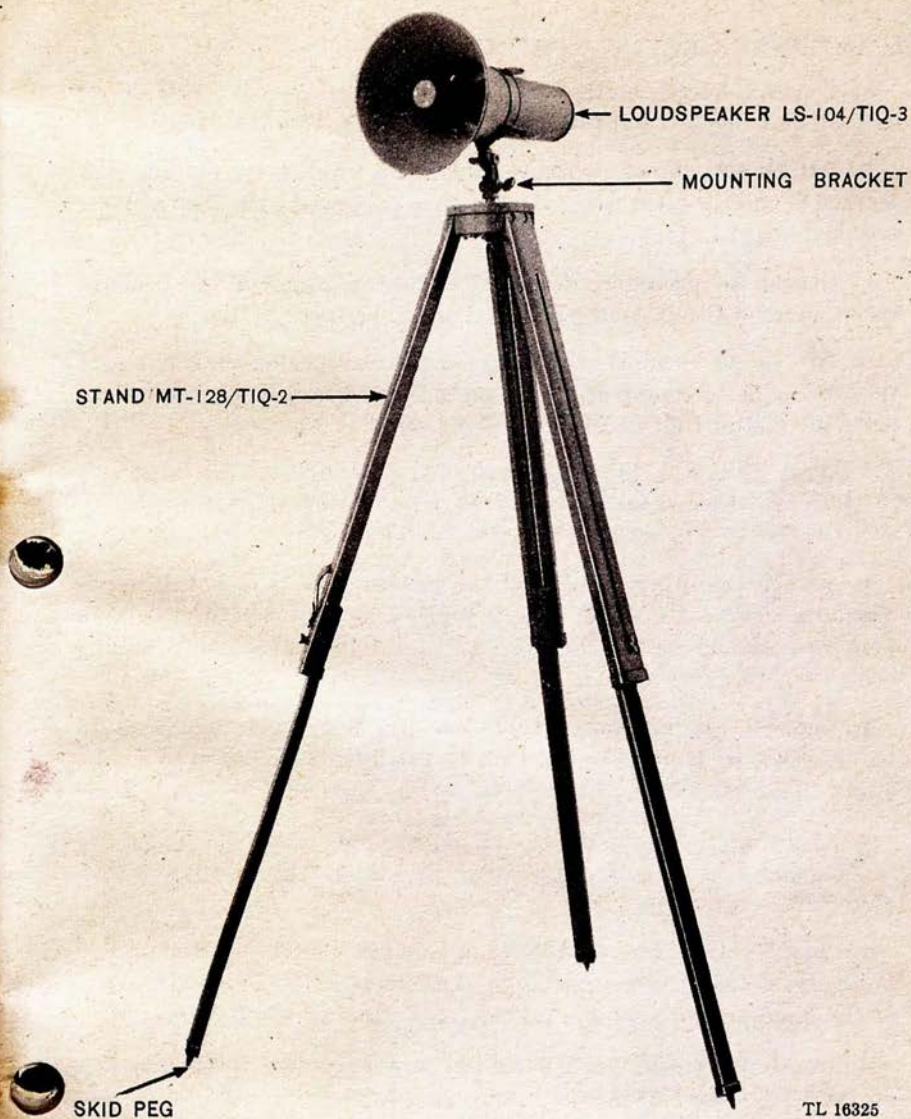

Figure 13. Loudspeaker LS-104/TIQ-3 on Stand MT-128/TIQ-2.
j. Adjust the legs of Stand MT-128/TIQ-2 by loosening the wingnut and bolt on each leg and adjusting the legs to secure the desired elevation. Then, level the mounting (fig. 13).